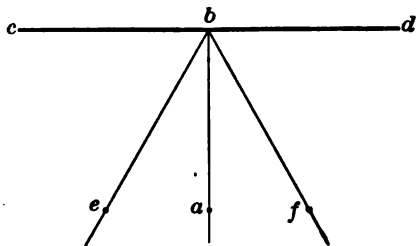

FIG. 146
**215. Law of Reflection.** — The law of reflection is simply a statement of how the light waves behave when they strike a surface and are turned back. To understand it, suppose yourself standing at *a* (Fig. 146), looking into a glass mirror, *cd*. It is clear that as you are directly in front of the glass, light rays will pass from you to it along the line *ab*, meeting the glass at right angles. Thus the rays, striking at *right angles* at *b*, will come straight back along *ba*, and you will see your own reflected image.